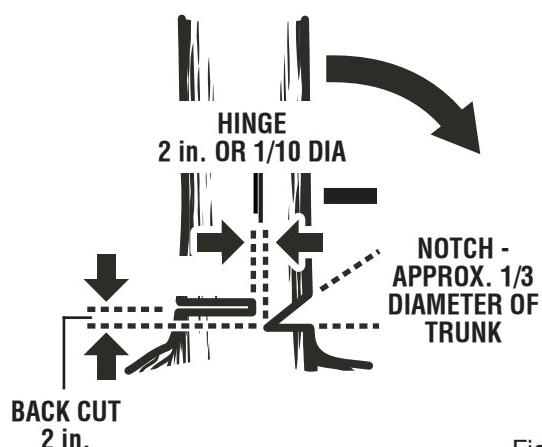

Fig. 14
- **Notched Undercut.** Cut a notch about 1/3 the diameter of the tree, perpendicular to the direction of fall. Make the cuts of the notch so they intersect at a right angle to the line of fall. This notch should be cleaned out to leave a straight line. To keep the weight of the wood off the saw, always make the lower cut of the notch before the upper cut. *See Figure 14.*
- **Felling Backcut.** The backcut is always made level and horizontal, and at a minimum of 2 in. above the horizontal cut of the notch. *See Figures 14 - 15.*
- Never cut through to the notch. Always leave a band of wood between the notch and backcut (approximately 2 in. or 1/10 the diameter of the tree). This is called "hinge" or "hingewood." It controls the fall of the tree and prevents slipping or twisting or shoot-back of the tree off the stump. *See Figures 14 - 15.*